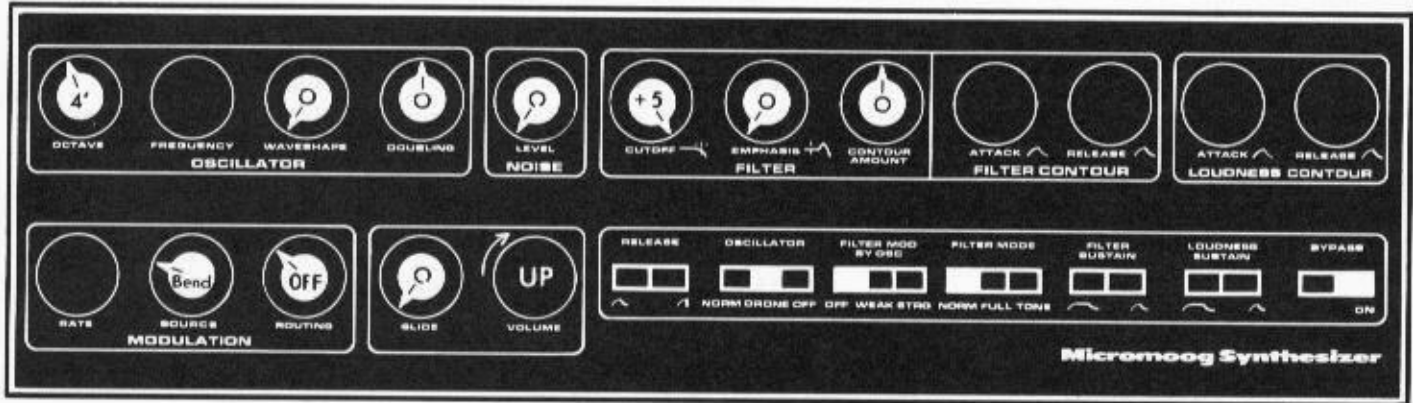

FIGURE 5-1 SOUND CHAIN CHECK
<p>A. No Sound. Power Light does not come on.</p> <p>B. No Sound. Power Light on. ± 15V supplies working.</p>	<ol style="list-style-type: none"> 1. Internal fuse F1 or F2 blown. 2. Bad power supply board 996-041615-001. 3. - 15V shorted out somewhere. <p>Set controls according to Figure 5-1. Signal trace the following points to locate faulty circuit.</p> <ol style="list-style-type: none"> 1. Q402 Gate 1 to see if the oscillator (VCO) is running. If running: <ol style="list-style-type: none"> a. Roll NOISE control knob up and down. If noise gets through to the output, then the fault lies in the waveshaper circuit. If noise does not get through: b. Check the filter (VCF) output at the emitter of Q513. No output here means that the filter is bad. If our sawtooth is here then: c. Check the output of the VCA at IC602B, pin 7. No signal here indicates trouble in the VCA. Otherwise the problem is in the VOLUME pot R612 or the harness wiring.
G. Oscillator Summing Network Fault.	1. IC301, CR303, Q307, Q308. 2. One of the summing resistors receiving wrong input. With controls set according to Figure 5-1, VO at P2, pin 3 should be within a few millivolts of -40 mV DC (IC301A, pin 1 should be roughly -2.0 volts DC). If VO is far off spec., then check input ends of R302, 330, 331, 339, 343, 371 and 372. You may short each one of these resistors to ground to help locate the troublesome input.
I. VCF not passing signal. Reason undetermined.	Set controls according to Figure 5-1. 1. Insure that input signal of roughly 40 mV p-p appears at base of Q501.
<p>L. VCA not working.</p>	<ul style="list-style-type: none"> 1. Insure that IC601, pin 2 has 40 mV p-p signal. (See Figure 5-1.) If signal is here, VCA is at fault. 2. Possible defective parts: IC601, IC602, Q601, SW601.